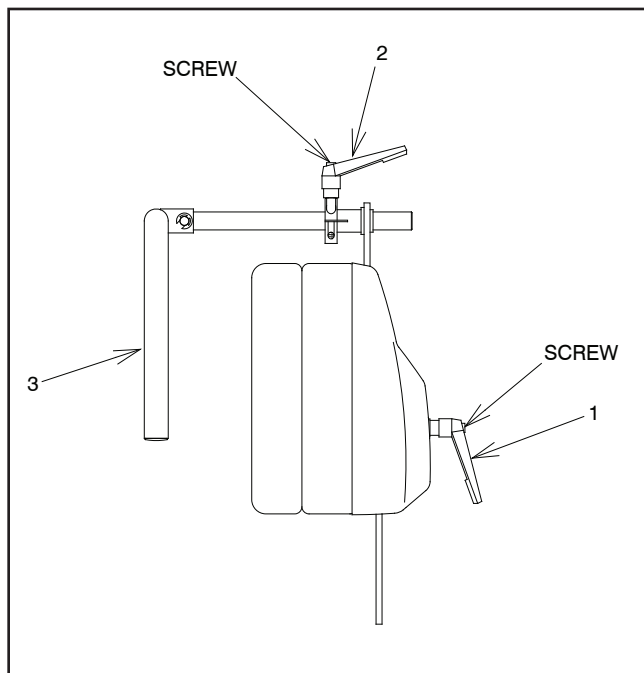

FIGURE 6
3.9.7.2. To change the tilt of the headrest unlock handle (Figure 6, item 1).
3.9.7.3. To change the height of the wrist support unlock handle (Figure 6, item 2).
3.9.7.4. When desired, the upper, curved wrist support bar (Figure 6, item 3) can be rotated up, out of the way. This also allows required clearance for a patient who is entering or leaving the chair.